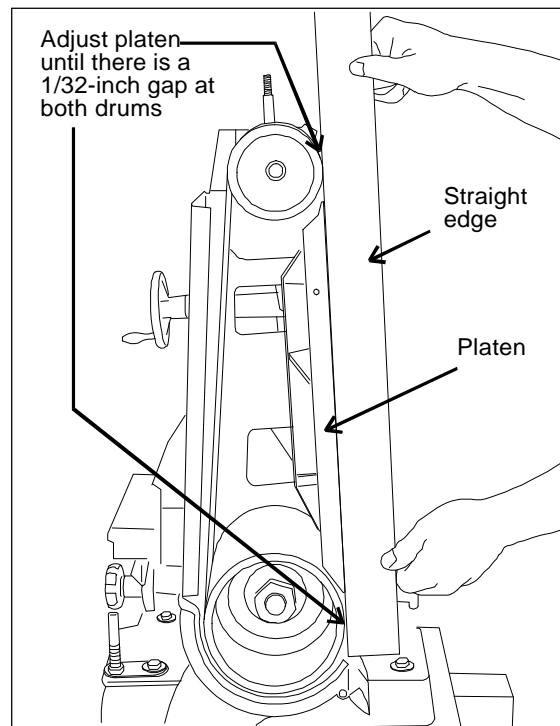

Figure 11: Adjusting height of platen
6. Using a straight edge as shown in Figure 11, adjust the platen height until it is 1/32-inch higher than the crown of both the drive and idler drums.
7. Check height of platen with a straight edge. If it is not 1/32 in. above the drums, adjust according to instructions in *Platen replacement or adjustment* in the *Machine set-up* section of this manual. The illustration in Figure 11 shows how to check the platen height.